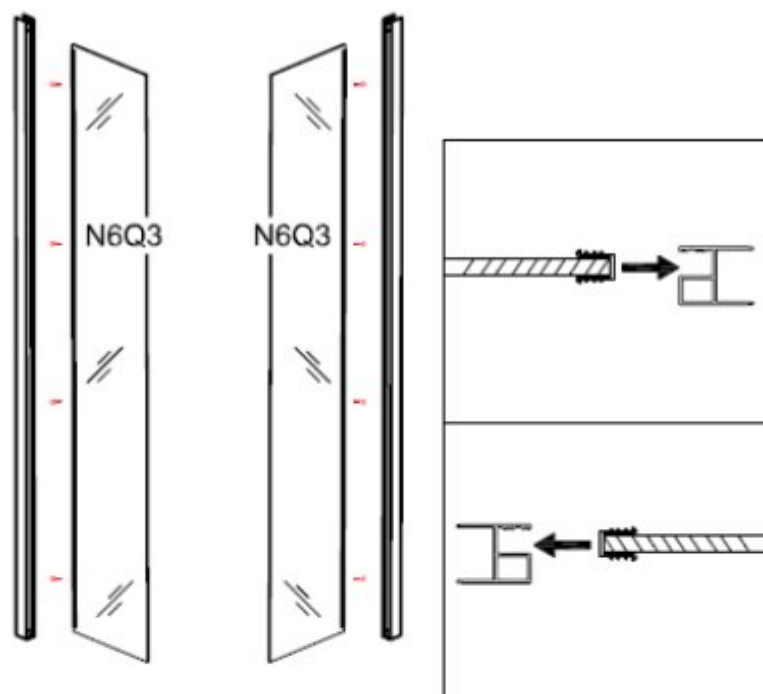

Figure 4
4. Click the U shape strip onto the fixed panel(N6Q3) vertically,as showed in figure 4.